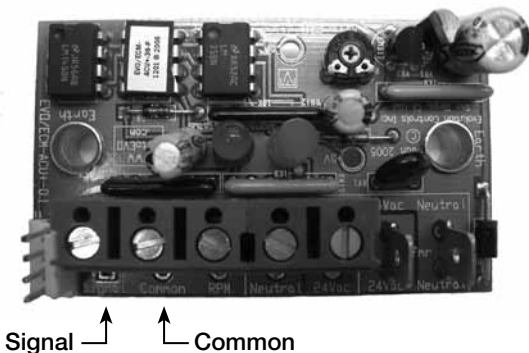

Figure 2: Control Board
6. Touch the black lead of the multimeter to neutral on the control board (see Figure 2).
7. Touch the red lead of the multimeter to the signal terminal (see Figure 2).